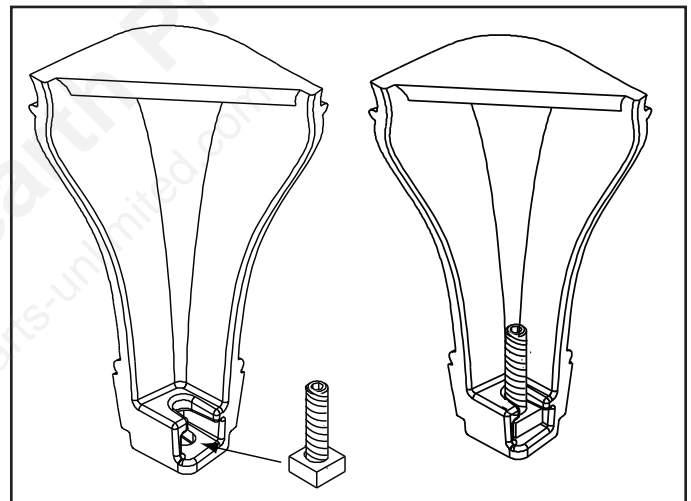

Figure 20.3
9. Slide allen bolt/nut assemblies into slots of two of the legs with the nuts on the bottom (**Figure 20.3**).